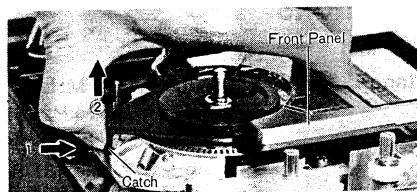

Fig. 5
9. Push the catch in the direction of arrow ① and remove the front panel in the direction of arrow ②, as shown in fig. 5.